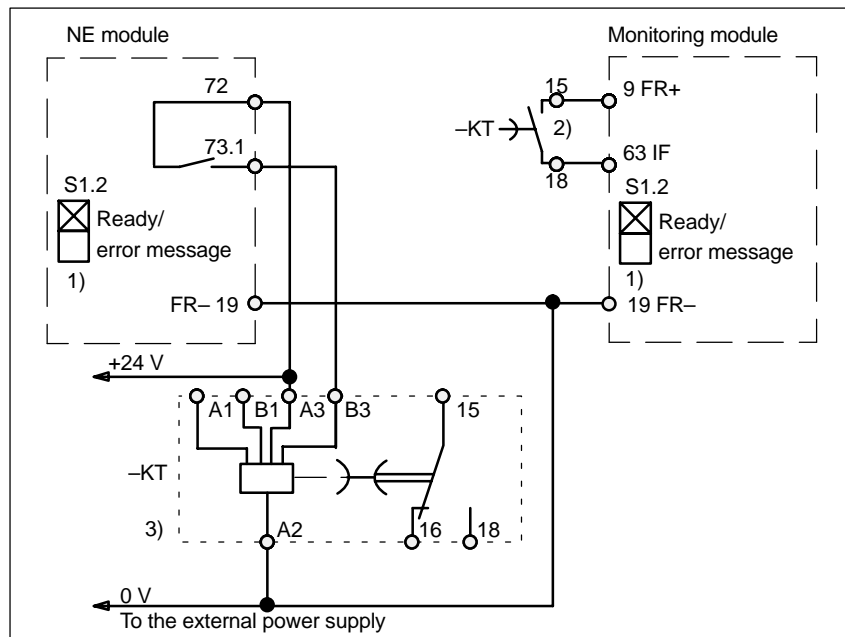

Fig. 8-8 Delayed shutdown, pulse enable
- Delayed shutdown pulse enable —> refer to Fig. 8-8